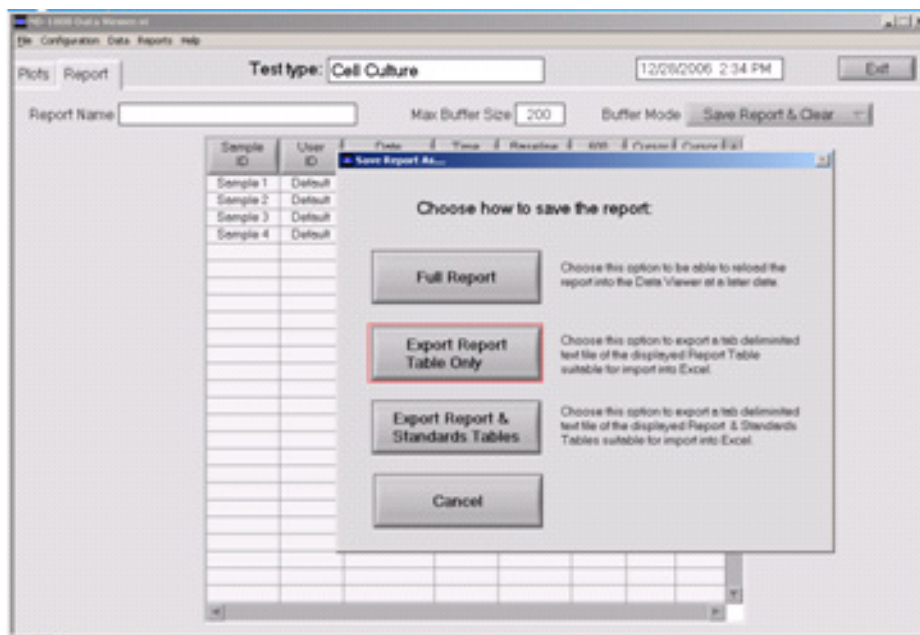

Figure 44 Save Report Software Dialog Box on the NanoDrop® ND-1000 Spectrophotometer.
- c. Click the **Export Report Table Only** button to save the file in the desired location (see Figure 44).